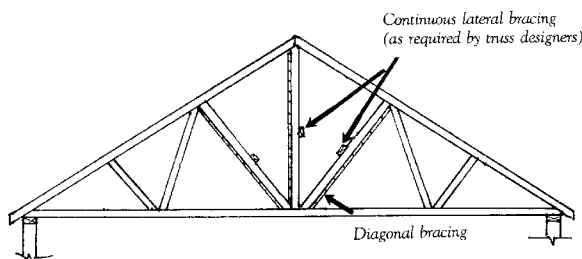

Figure 3. Diagonal bracing in the plane of the web members prevents lateral movement. The diagonal braces are typically arranged in a crisscross fashion.
2. Diagonal bracing in the plane of web members (Figure 3).
Figure 3 illustrates bracing in the plane of the webs, which is typically placed in a crisscross fashion.